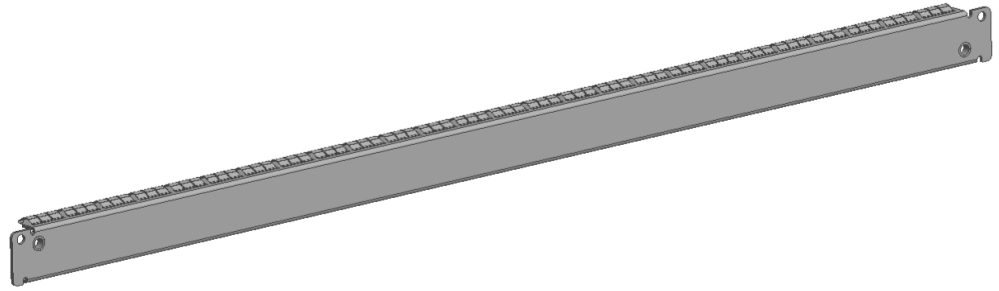

Figure 21 Rear Blanking Panel - for empty rear slots
4. **Rear Slot (3):** Fit a second 1312 MV-800 Rear Panel module or a blanking plate (see Figure 21) to rear Slot (3). Fasten the two rear plate-securing screws. Gently tighten. Do not over-tighten.